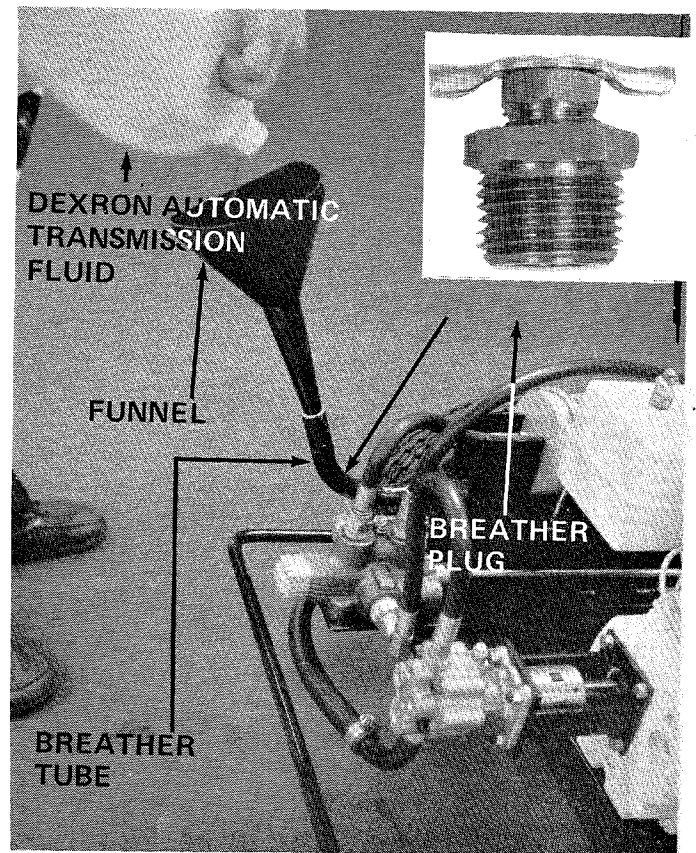

FIGURE 7
4. Remove the breather plug from breather tube. See figure 7. Pour approximately 3 gallons of Dexron automatic transmission fluid ONLY into breather tube.